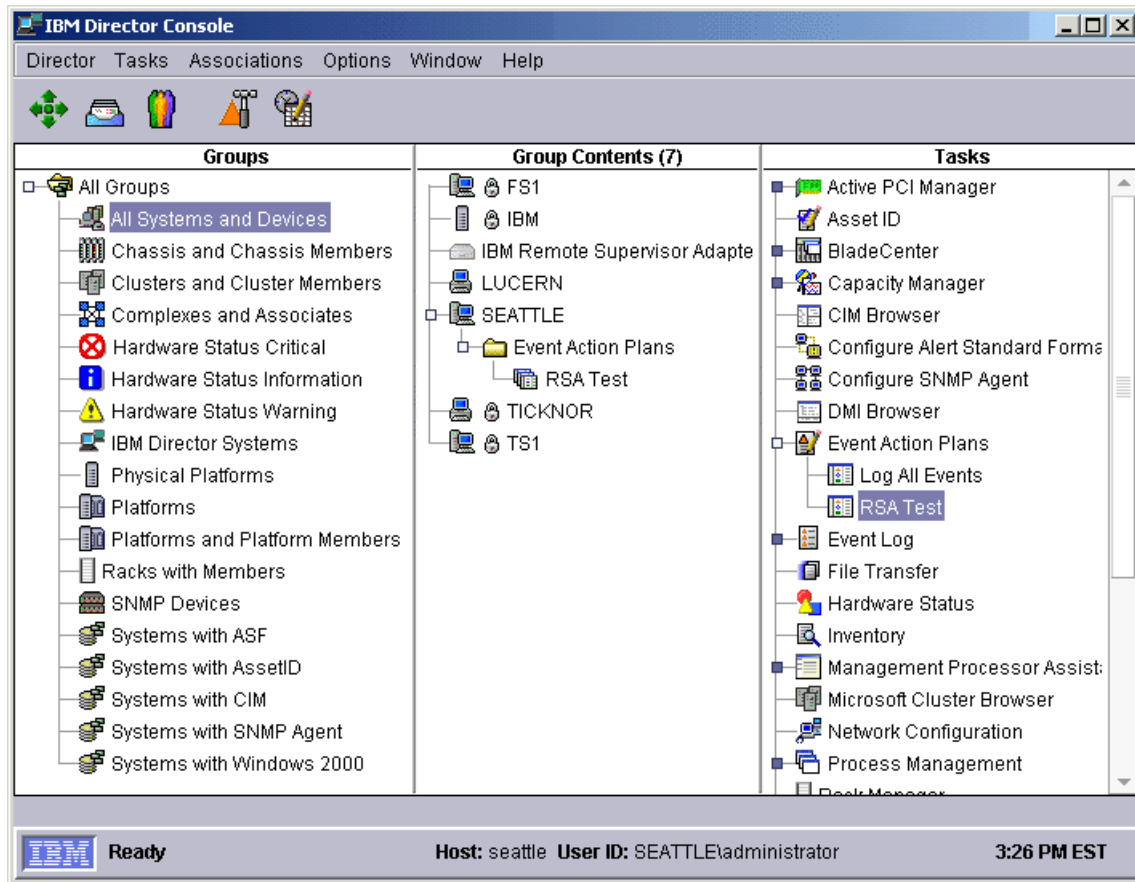

Figure 5-8 Completed configuration
13. In the IBM Director Console, click and drag your test event to your IBM Director Server system in the middle pane. See Figure 5-8 on page 132 for how your configuration should look.